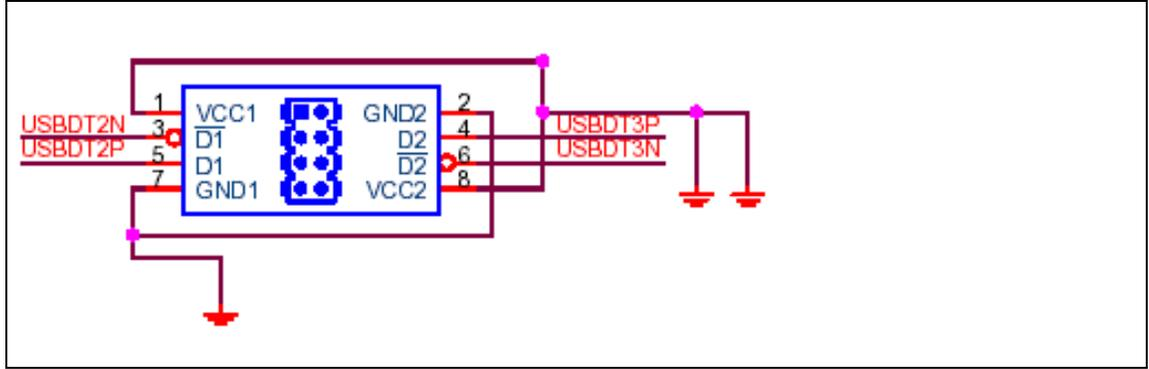

Figure 3-25: 8-pin USB Connector Location
- CN Location:** See **Figure 3-25**